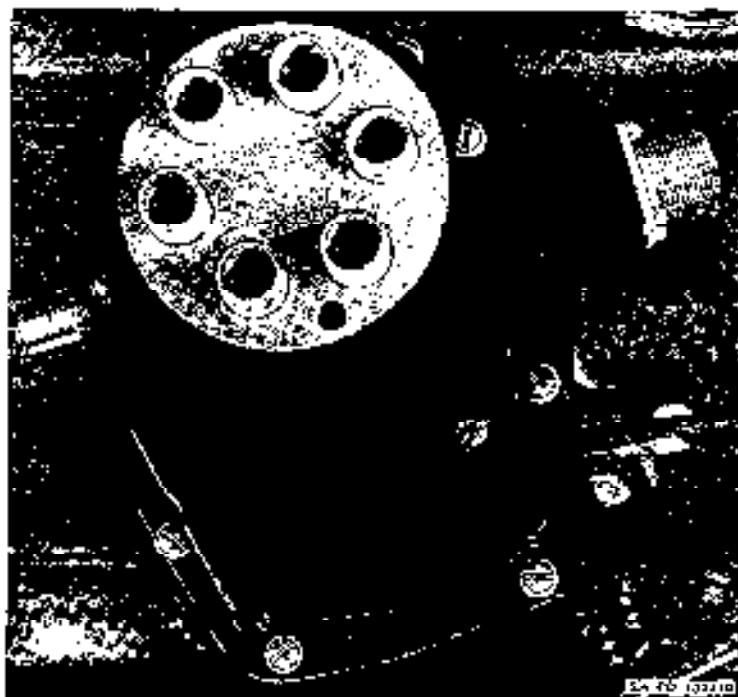

Figure 175. Top view of cover assembly installed on distributor.
(1) Inspection and test.
- (a) *Inspect points.* Remove eight screws and lockwashers securing distributor cover assembly to distributor (fig. 175), and remove cover. Remove and discard cover gasket. Lift rotor from breaker cam assembly (fig. 176), push breaker lever away from cam, and examine contact points for pitting, burning, or wear. If the points are slightly pitted or burned, dress them with a contact point dresser
- (a) Remove eight screws and lockwashers securing distributor cover assembly to distributor (fig. 175) and remove cover. Remove and discard cover gasket.
(g) Place new gasket on top of distributor housing, position cover on distributor, and install eight screws and lockwashers (fig. 175). Tighten screws.
stall eight screws and lockwashers (fig. 175). Tighten screws securely.
- (f) Position distributor primary wire (F) at primary lead-in on rear of distributor and tighten connector (R).
- (g) Position distributor vent line (C) at elbow on front of distributor and tighten nut (R).
- (h) Insert ends of spark plug cables in cable sockets (corresponding to spark plug numbers in distributor cover (fig. 175), and tighten connectors.